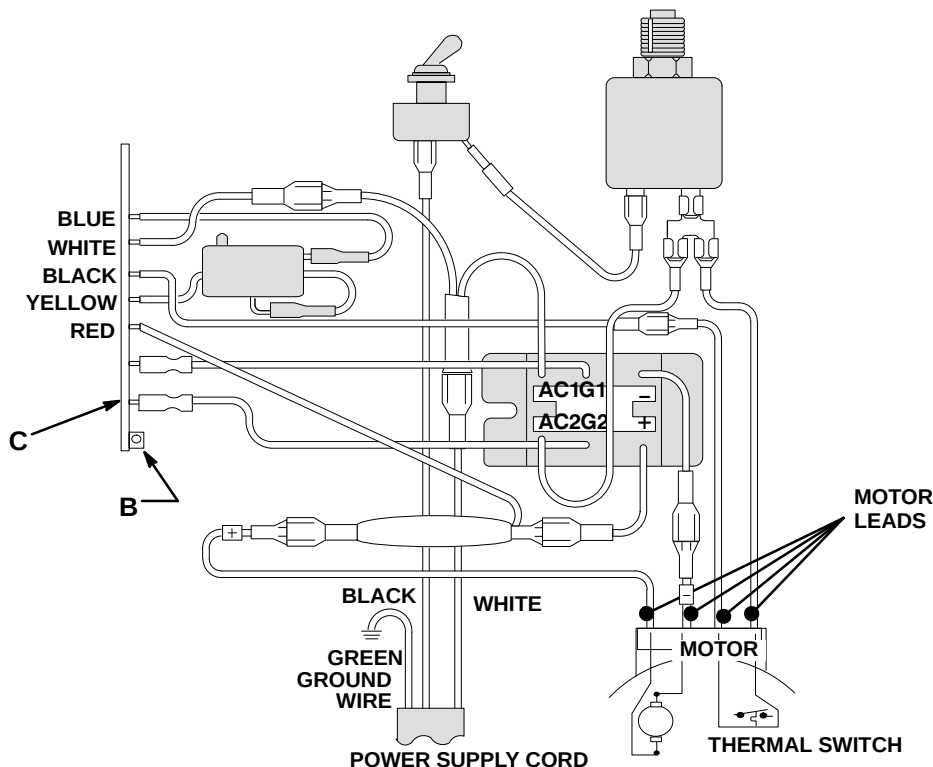

Fig 2-2
Circuit board flag position has changed. However, the part number did not change. Also, the wiring shown for the black and yellow wires (See Fig 2-2) has been corrected.
2. Disconnect the fluid outlet hoses. Disconnect the hose (D) between the pump and pressure control.
3. Loosen the filter bracket nut (E).
4. Hold the hex of the pressure control adapter (F) firmly with a 3/4" open end wrench. Use an adjustable wrench to unscrew the swivel union (G), and then remove the fluid filter (H).
5. Remove the pressure control cover. Disconnect the four motor leads. See Fig 2-2.
7. Remove the conduit (J).
8. Remove the three pressure control mounting screws (K). Remove the pressure control.
9. Remove the screws (L) and back mounting bracket (M).